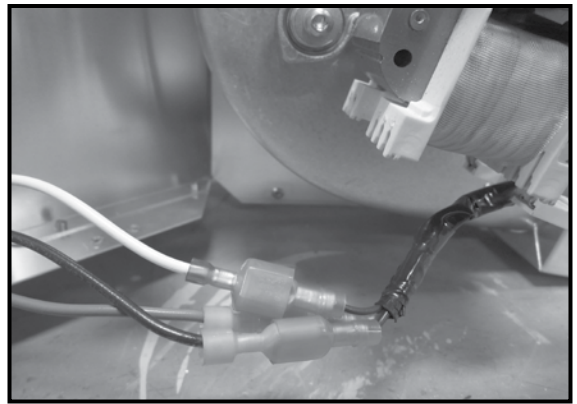

Figure 3.12
6. Attach the white and black wires from the PVI harness to the two black wires coming from the blower. Attach the green wire from the PVI harness to the green/yellow wire coming from the blower. See figure 3.12.